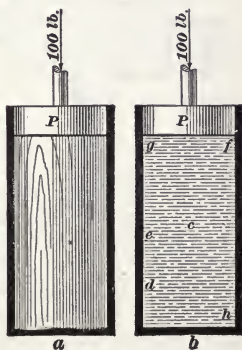
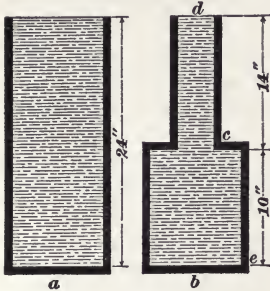

FIG. 1.
FIG. 3.
3. **Hydrostatic Pressure.**—Fig. 1 represents two cylindrical vessels of exactly the same size. The vessel *a* is fitted with a wooden block of the same size as, and free to move in, the cylinder; the vessel *b* is filled with water, whose depth is the same as the length of the wooden block in *a*. Both vessels are fitted with air-tight pistons *P*, each of whose areas are 10 square inches.
7. Downward Pressure.—In Fig. 3 the pressure on the bottom of the vessel *a* is, of course, equal to the weight of the water it contains. If the area of the bottom of the vessel *b* and the depth of the liquid contained in it are the same as in the vessel *a*, the pressure on the bottom of *b* will be the same as on the bottom of *a*. Suppose the bottoms of the vessels *a* and *b* are 6 inches square, and that the part *c d* in the vessel *b* is 2 inches square, and that they are filled with water. Then, since 1 cubic foot of water weighs 62.5 pounds, the weight of 1 cubic inch of water is $\frac{62.5}{1,728}$ pound = .03617 pound. The number of cubic inches
If this pressure were to be obtained by means of a weight placed on each piston (as shown in Fig. 1 at a and b), we would have to put a weight of $6 \times 6 \times 10 = 360$ pounds on the piston in vessel a , Fig. 3, and one of $2 \times 2 \times 10 = 40$ pounds on the piston in vessel b .
10. Suppose that the vessel *b*, in Fig. 3, were inverted, as shown in Fig. 4, the pressure on the bottom would still be .868 pound per square inch, but it would require a weight of 3,490 pounds on a piston at the upper surface to make the pressure on the bottom 391.25 pounds, instead of a weight of 40 pounds, as in the other case.